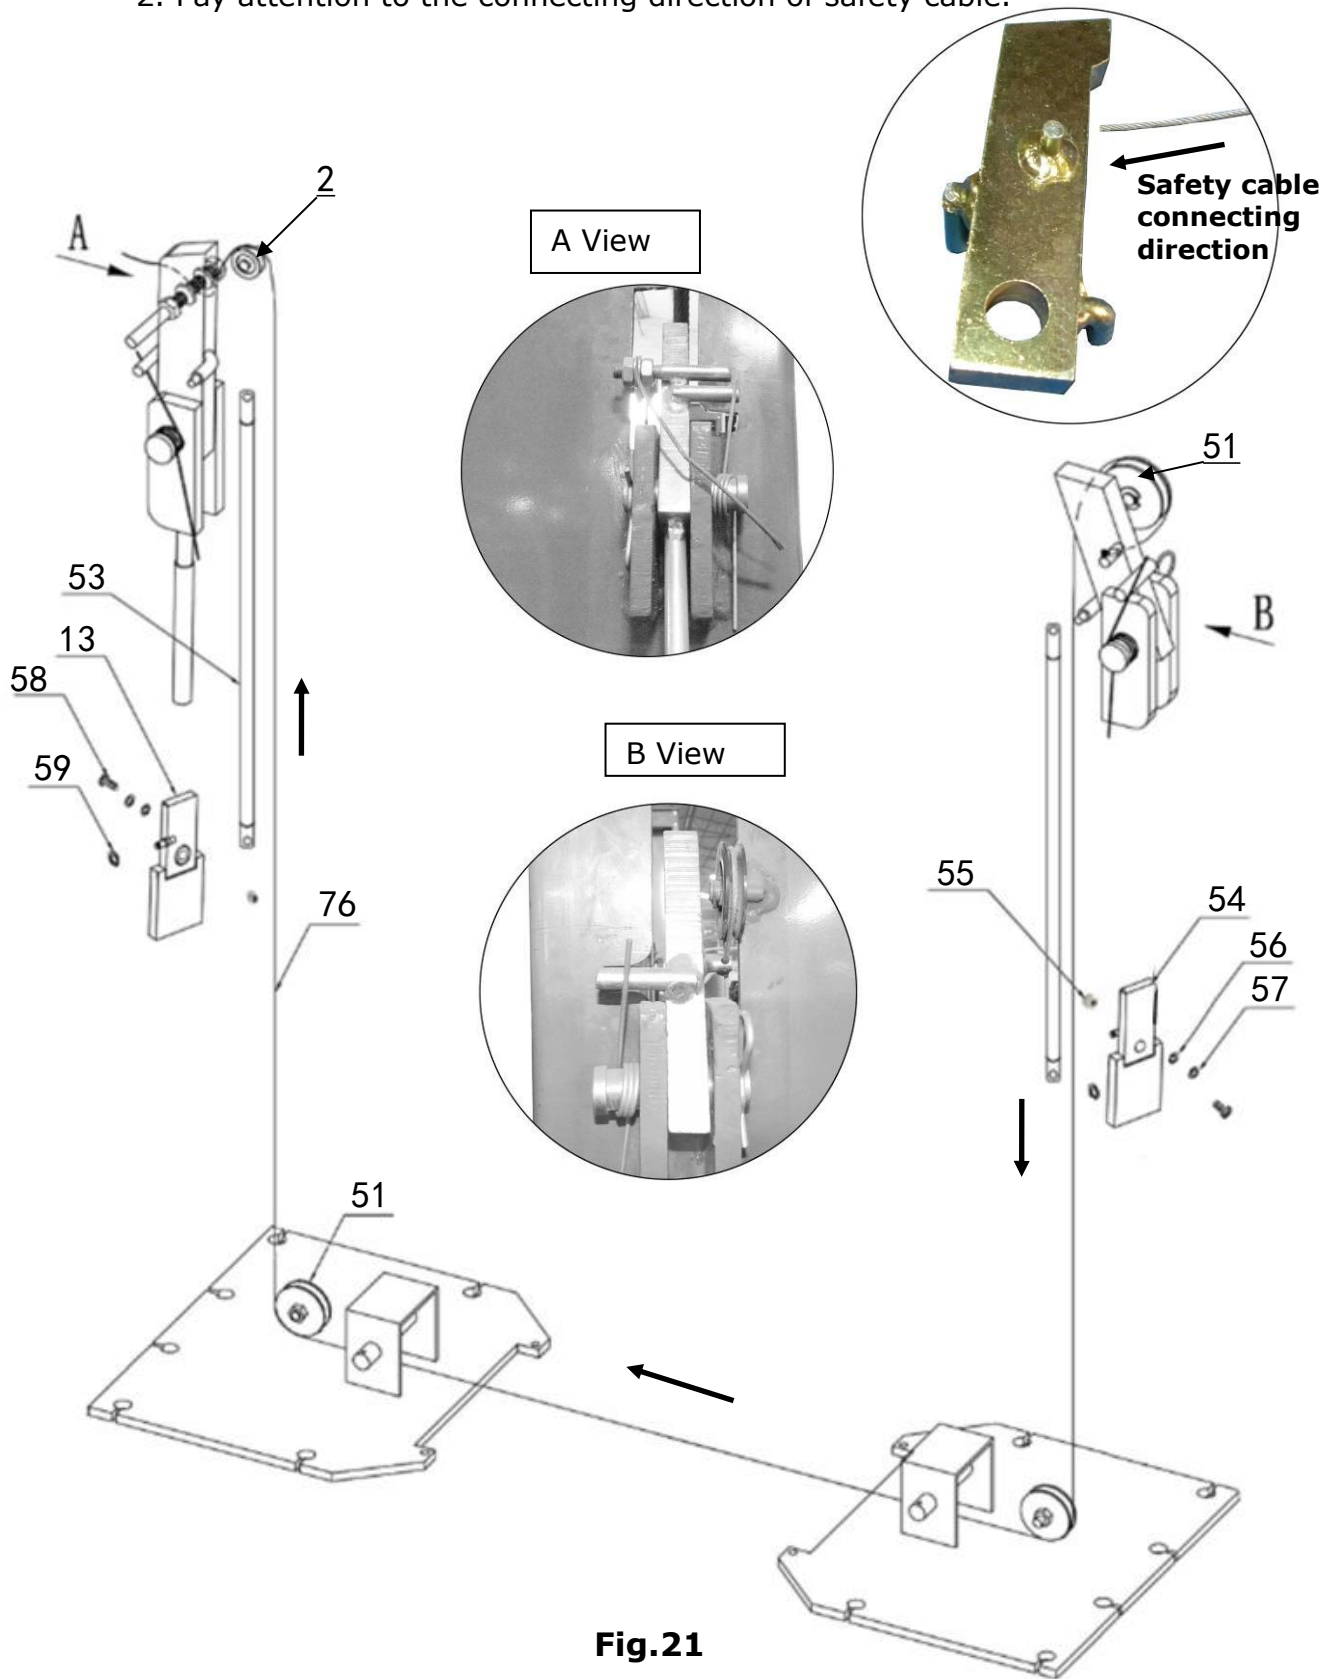

Fig.21
K. Install safety cable (See Fig. 21).